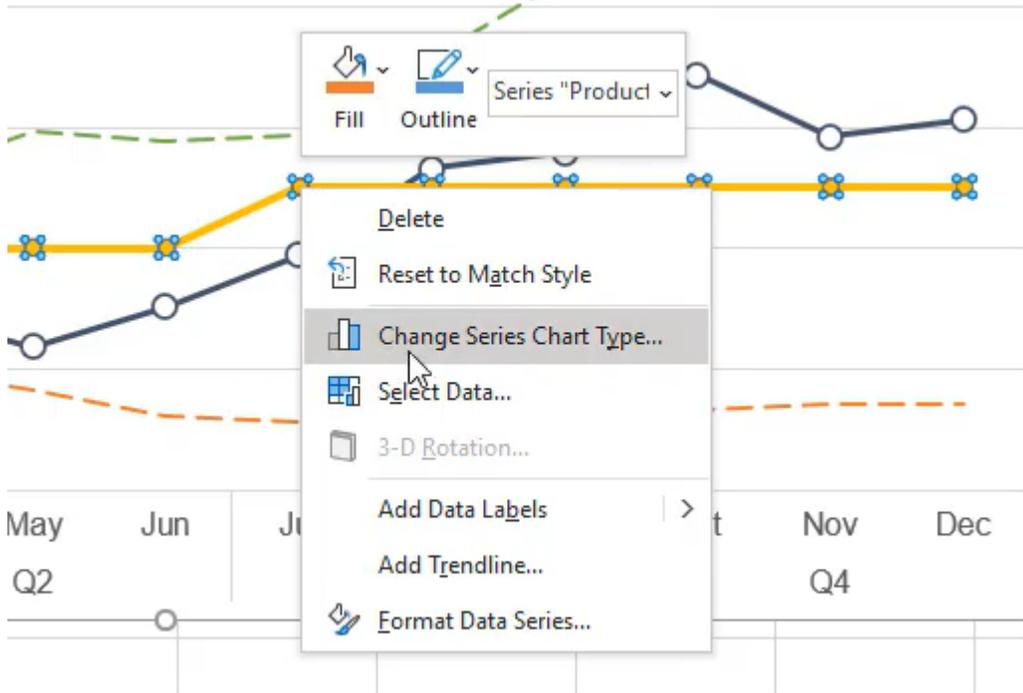

Figure 37.16
1. Right-click on a specific series and select **Change the Series Chart Type**. (See **Figure 37.16**)